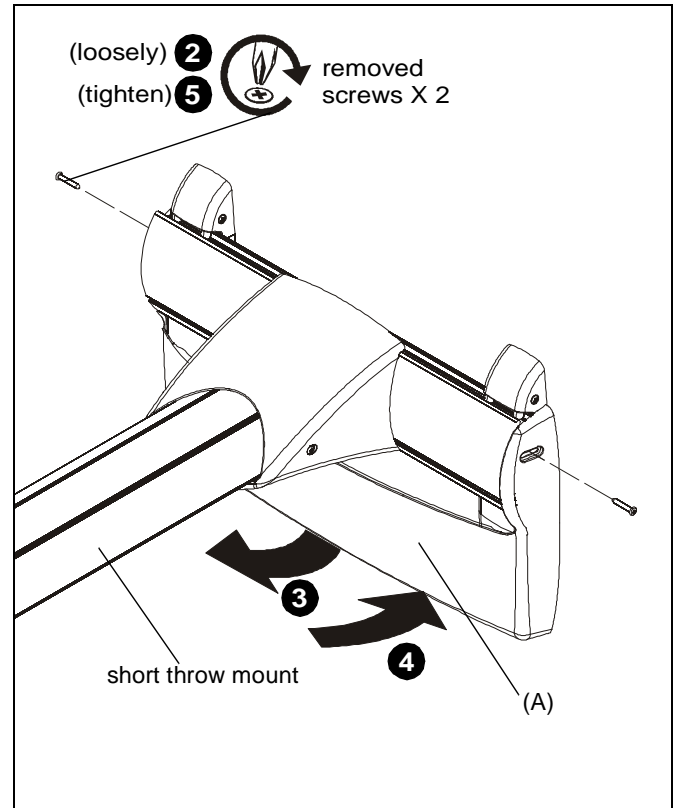

Figure 2
2. Loosely attach short throw wall plate (A) to short throw wall mount using two of the Phillips pan head sheet metal screws removed in Step 1. (See Figure 2)
3. Lift short throw wall plate (A) forward and organize cables underneath it as desired. (See Figure 2)
4. Slide short throw wall plate (A) back against wall. (See Figure 2)
5. Tighten two screws to secure wall plate to mount. (See Figure 2)